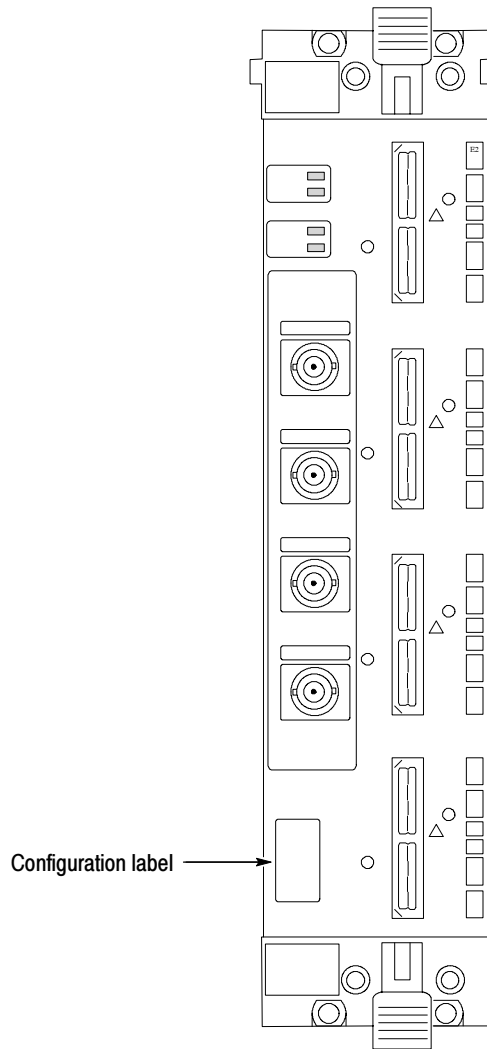
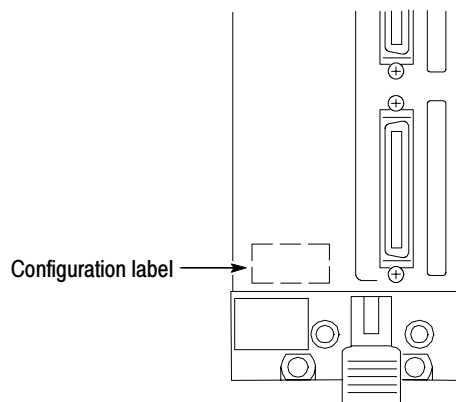

Figure 5: Configuration label location on TLA logic analyzer modules
Figure 7: Configuration label location on pattern generator modules
- Lexan label. This label is located on the front of the module and lists the current configuration (see Figure 5 on page 10 or Figure 7 on page 12).
7. Locate the small lexan configuration label on the front panel of the module. Figure 5 shows a TLA7Axx series logic analyzer module. The configuration label location is similar for other logic analyzer modules.
8. Affix the new configuration label over the old label near the bottom of the front panel (see Figure 7).